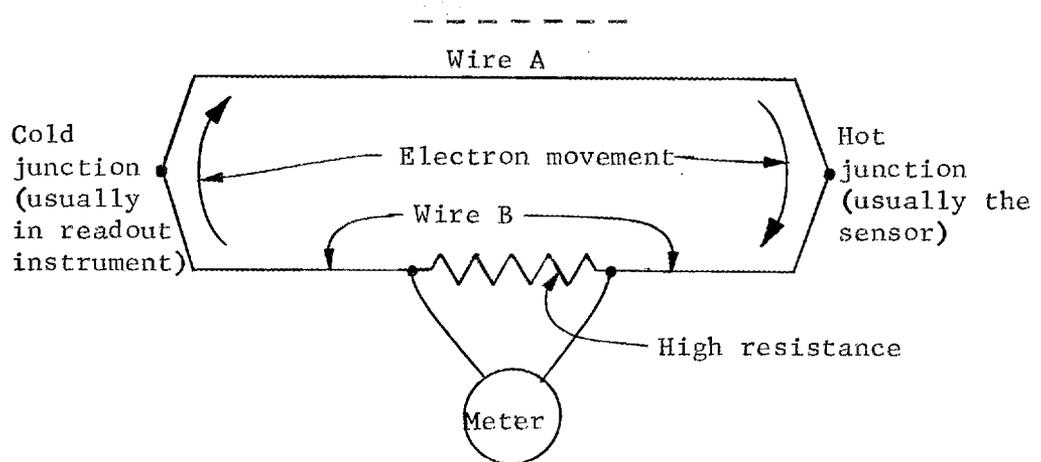

Fig. V-64. Thermocouple Circuit
47. A more versatile sensor is the thermocouple which, in principle, operates as shown in Figure V-64. A potential difference is developed at each junction and is proportional to the temperature at the junction. The potential developed at the cold junction is less than that at the hot junction. Because the voltages (emf's) are in series but of opposite polarity, there will be a current in the circuit due to the difference of the emf's.
54. The current produced, and thus the voltage drop across R (Figure V-64), depends on the difference in _____ between the two couples. electric